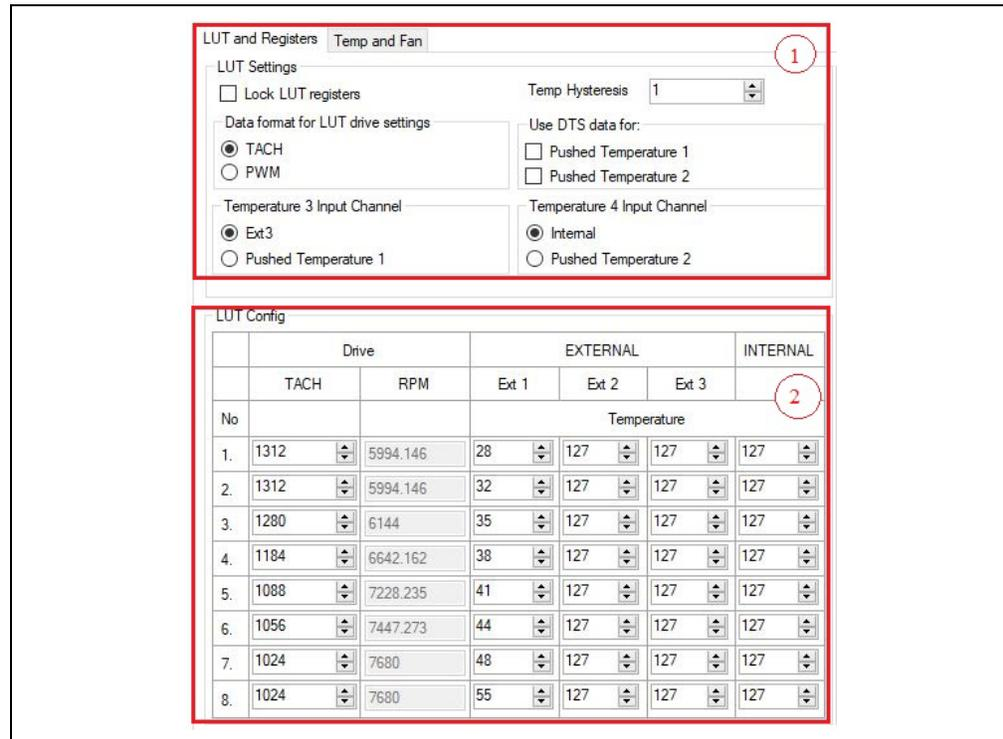

FIGURE 3-16: Look-up Table.
The Look-up Table Settings section (marked in Figure 3-16 with the number (1)) provides a list of features that can be selected and changed.